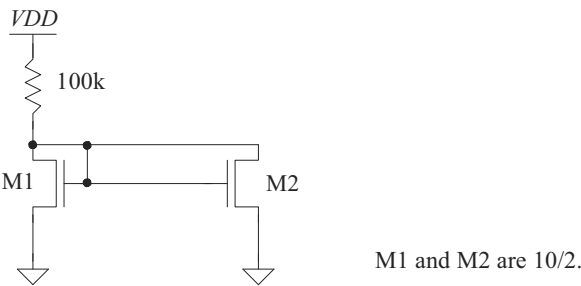

Figure 20.52 Circuit used in Problem 20.2.
20.2 Repeat problem 20.1 for the circuit in Fig. 20.52. Can M1 and M2 be replaced with a single MOSFET? If so how and what size? If not why?